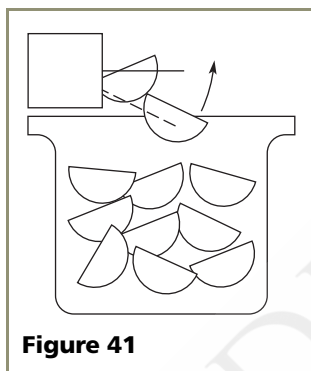

Figure 41
4. The ice maker will continue to produce until the bin is full. You may interrupt production by raising the bin arm into an upright and locked position (see **Figure 41**). While the bin arm is locked, the unit will maintain temperature for ice storage.